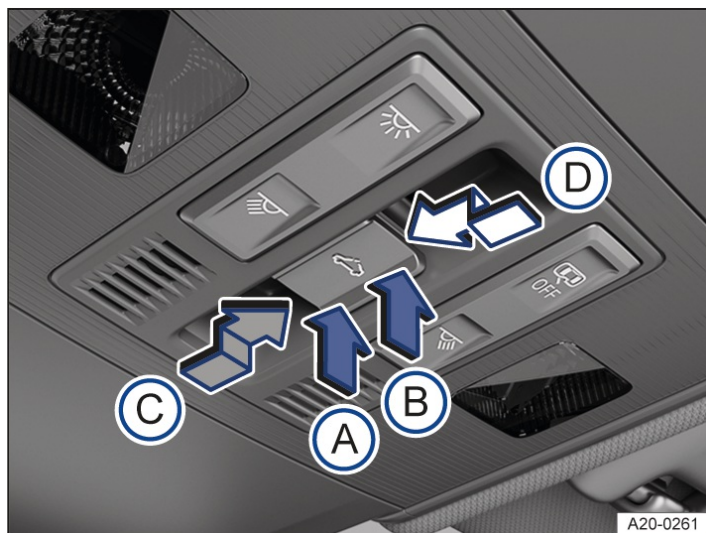

Fig. 1 In the roof: button for the glass roof.
- Manual operation: push button → Fig. 1 (B) to the first position.
- One-touch function: push button → Fig. 1 (B) to the second position.
- Manual operation: push button → Fig. 1 (A) to the first position.
- One-touch function: push button → Fig. 1 (A) to the second position.
- Manual operation: push button → Fig. 1 (C) to the first position.
- One-touch function up to convenience position: push button → Fig. 1 (C) to the second position.